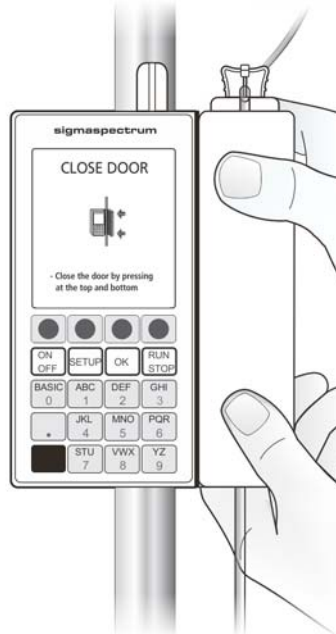

Figure 17. Proper Door Closing.
11. Close the door by pressing the upper and lower corners near the door latches. See Figure 17.